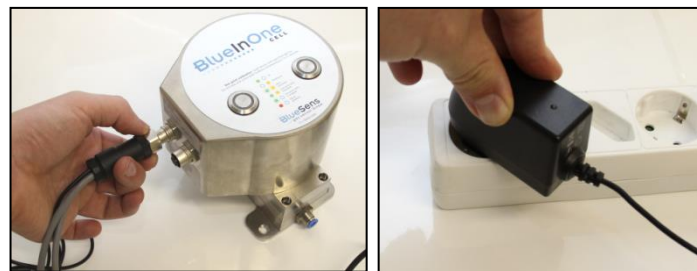

Fig.18: Connect *BlueInOne*
3. Connect the spare female connector (with the power supply cable) of the connection cable *BlueInOne* to the male connector of the *BlueInOne* (**Port A**, fig. 18) and plug in the power supply (fig. 18).